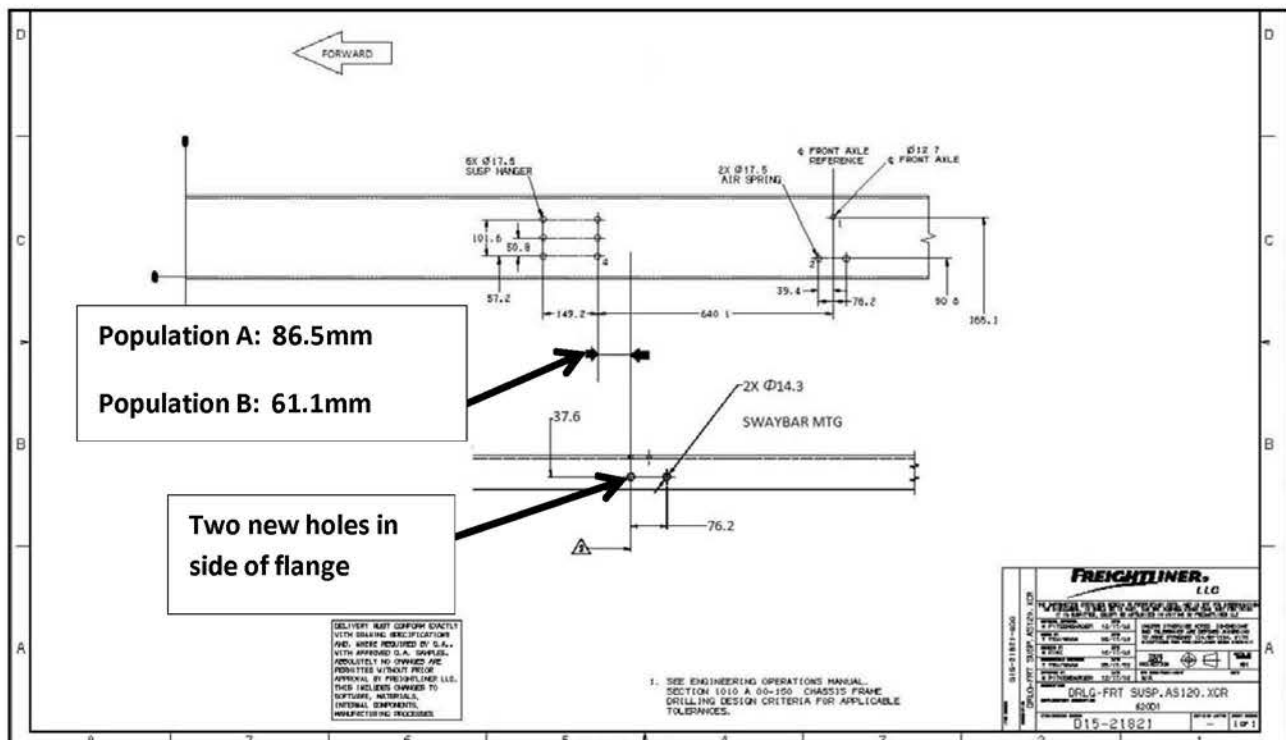

Figure 1 – Drilling Location For Populations A and B
18. For vehicles in Population A or B, drill two new holes in the frame side flange for Stay Rod Bracket P/N: 16-20587-000. Note that the dimensions are different for Population A and B. See Figure 1 below.